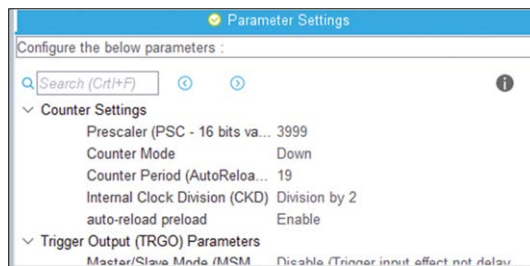

Figure 9.3: Configuring TIM2.
- In **Parameter Settings**, set the **Prescaler** to **3999**, **Counter Mode** to **Down**, **Counter Period** to **19**, and enable **auto-reload preload** (Figure 9.3).